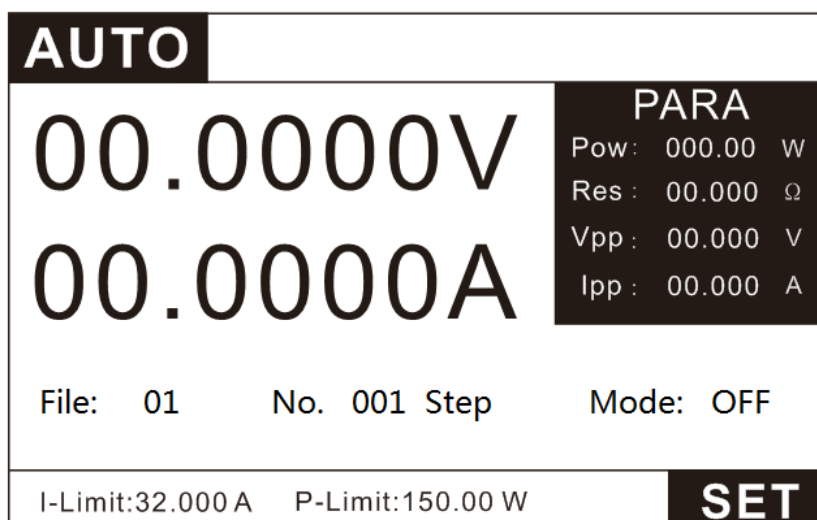
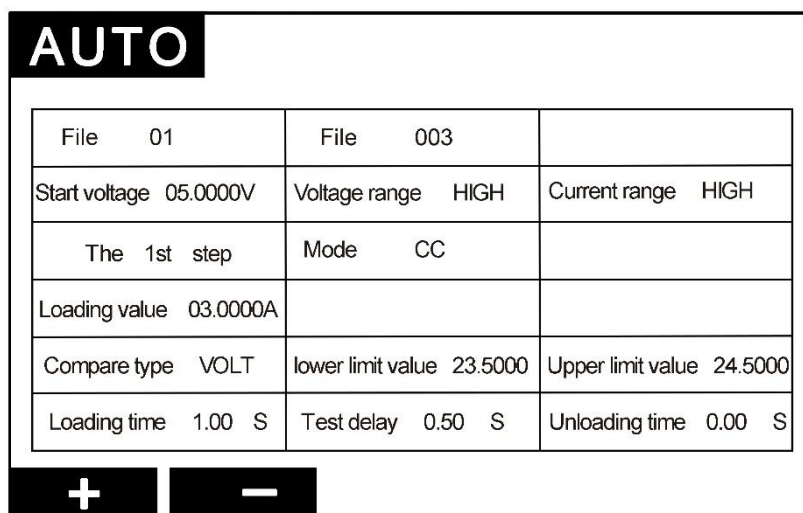

Figure 3.12 AUTO test Page
Figure3.13 AUTO test editing Page
1. Press the key **MODE** to enter the mode selection page, press the up and down keys to select AUTO, and press the key **ENTER** to enter the AUTO test interface, as shown in Figure 3.12.
2. In Figure 3.12, press the key **SET** to enter the setting interface, as shown in Figure 3.13.